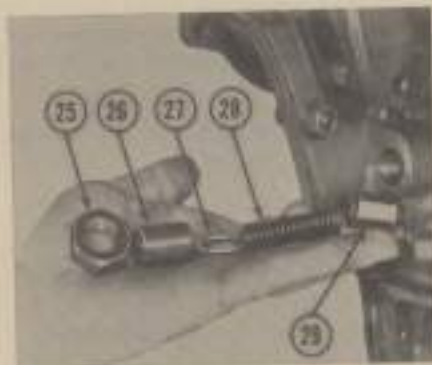

Fig. 57—Oil pressure relief valve exploded from left front side of the diesel engine cylinder block.
**98. ADJUST RELIEF VALVE.** Normal oil pressure of 35 psi is controlled by a spring loaded oil pressure relief valve. The pressure is adjusted by the slotted screw (26—Fig. 57) on the left front side of crankcase. Do not increase spring pressure on oil pressure relief valve as a substitute for overhauling a worn pump. This valve must by-pass a certain amount of oil to lubricate the engine timing and fuel injection pump drive gears.